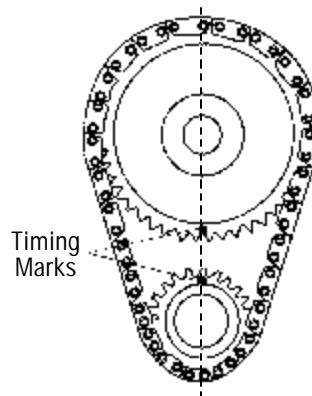

Figure 1- Timing Chain Sprocket Alignment
14. Rotate engine until timing marks are aligned (See Figure 1).
Install camshaft with timing marks lined up as recommended by factory specifications (See Figure 1). Edelbrock Timing Sets feature three keyways for specific timing selection. Use the "0" or straight-up position for most applications. When using Performer-Plus Timing Chain and Gear Set #7801 with Edelbrock cam and lifter kits, straight up timing alignment is achieved. If any other timing gear set is used, it is necessary to check cam position for correct timing alignment. This requires indexing the camshaft with a degree wheel to verify timing alignment. O.E.M. or non-Edelbrock timing gear sets are not recommended for use with Edelbrock camshafts.
After the cam is installed and timed correctly (See Figure 1), it will be necessary to check each pushrod for correct lifter pre-load. Before installation, be sure to coat friction surfaces of pushrods, rocker arms and pivots with a suitable lubricant such as motor oil or assembly lube.